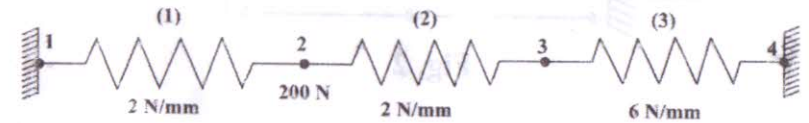

Fig. 1
9. Consider the assemblage of three springs as shown in fig. 1. Calculate the displacement of the nodal points 2 and 3.